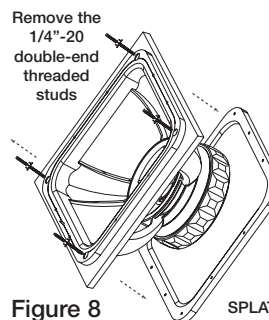

Figure 8
With the Gap Cap installed, remove the four (4) 1/4"-20 double-end threaded studs that lock the BAM to the wood "template". See Figure 8.